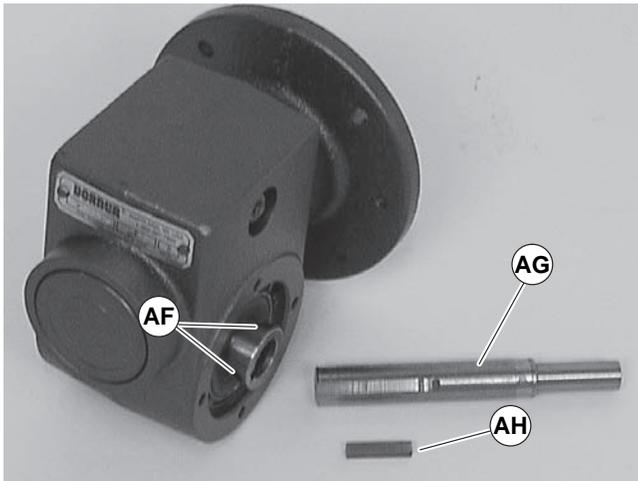

Figure 23
8. Loosen six (6) set screws (Figure 23, item AF). Remove drive shaft (AG) and key (AH).
10. Replace the original shaft components into new gear reducer (see Figure 23).